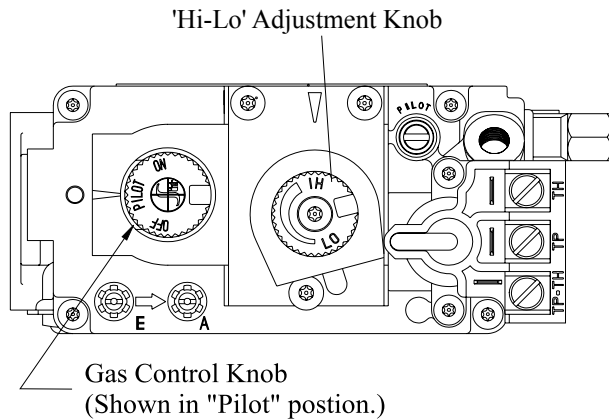

Figure 32. 'Hi-Lo' Adjustment on the L42DF-ST's gas valve.
The L42DF-ST is equipped with an adjustable burner, allowing you to raise or lower the flames. To adjust the flames, locate the black knob marked 'Hi-Lo', in the centre of the gas control valve (See Figure 32). The front burners are not adjustable.
- An inspection of the gas valve, gas components, and pilot flame. For your convenience a 1/8" manifold pressure tap is supplied on the gas valve for a test gauge connection. See Figure 32.